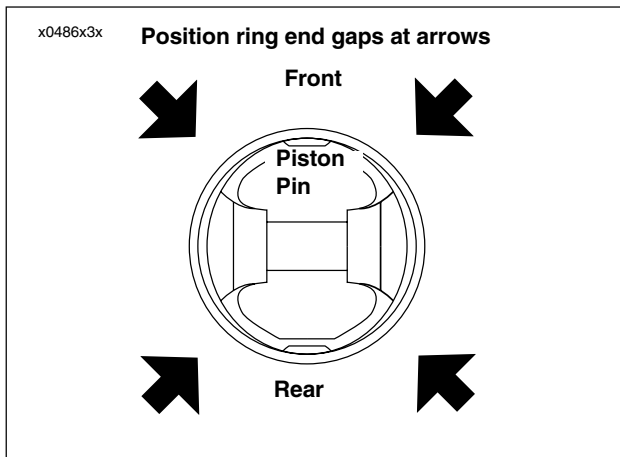

Figure 3-98. Ring End Gap Position
3. See Figure 3-98. Install rings so end gaps of adjacent rings are a minimum of 90° apart. Ring gaps are not to be within 10° of the thrust face centerline.